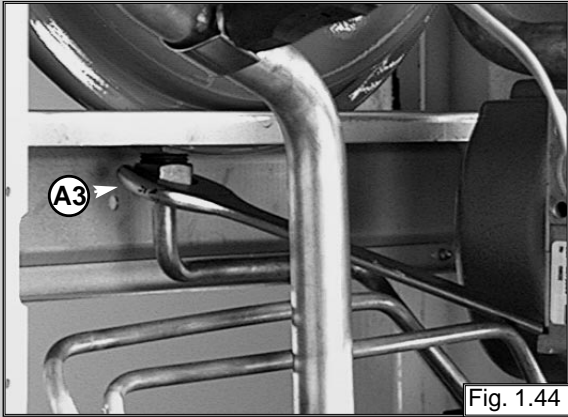

Fig. 1.44
1. Remove nut "A3" away from the expansion vessel (see fig. 1.44);